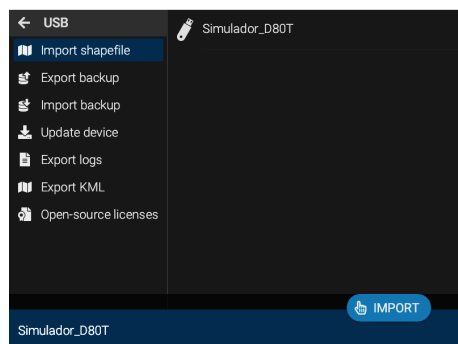
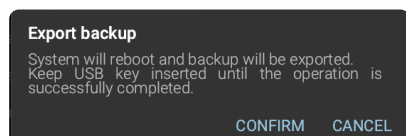

Fig. 84
Fig. 85
- Select the map (Fig. 84) and press **IMPORT**. The monitor requires to confirm the import.
Press **Export backup** (Fig. 84) and **CONFIRM** (Fig. 85):